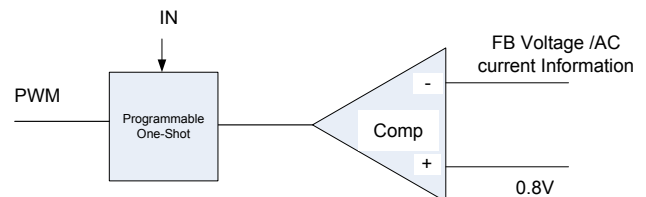

Figure 2. Simplified Control Schematic of AOZ2261AQI-10
The simplified control schematic is shown in Figure 2. The high-side switch on-time is determined solely by a one-shot whose pulse width can be programmed by one external resistor and is inversely proportional to input voltage (IN). The one-shot is triggered when the internal 0.8V is higher than the combined information of FB voltage and the AC current information of inductor, which is processed and obtained through the sensed lower-side MOSFET current once it turns-on. The added AC current information can help the stability of constant-on time control even with pure ceramic output capacitors, which have very low ESR. The AC current information has no DC offset, which does not cause offset with output load change, which is fundamentally different from other V^2 constant-on time control schemes.